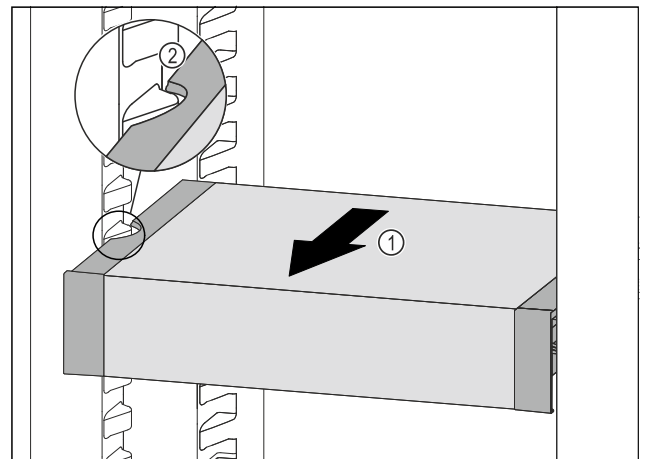

Fig. 72
- Pull VarioSafe forwards Fig. 72 (1) until the recesses in the side of the VarioSafe are at the level of the support rib in the refrigerator compartment. Fig. 72 (2)